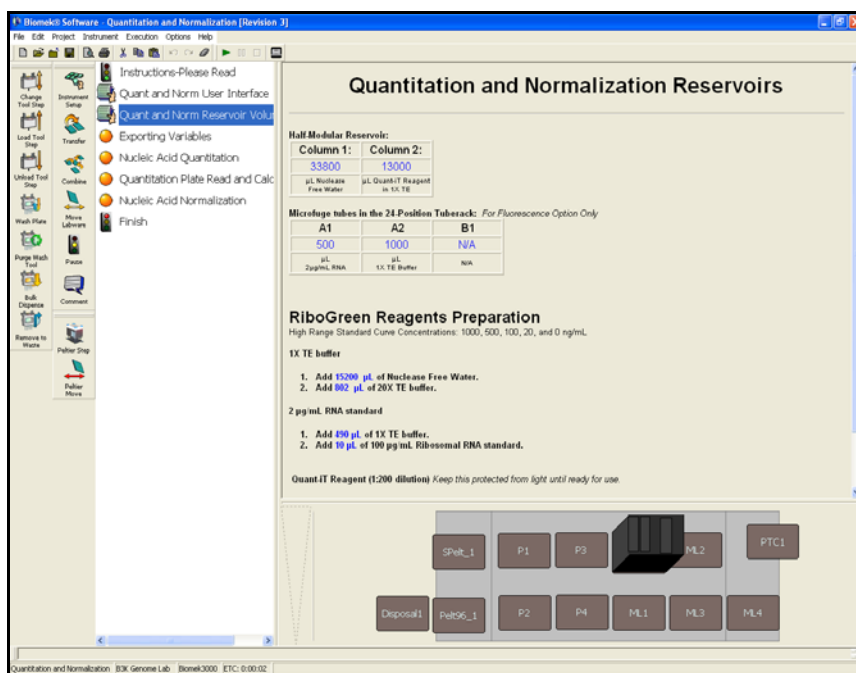

Figure 1-2. Quant and Norm Reservoir Volumes step
12. Select the **Quant and Norm Reservoir Volumes** step (Figure 1-2). The **Quant and Norm Reservoir Volumes** step provides basic instructions for preparing the reagents and filling labware for the method.